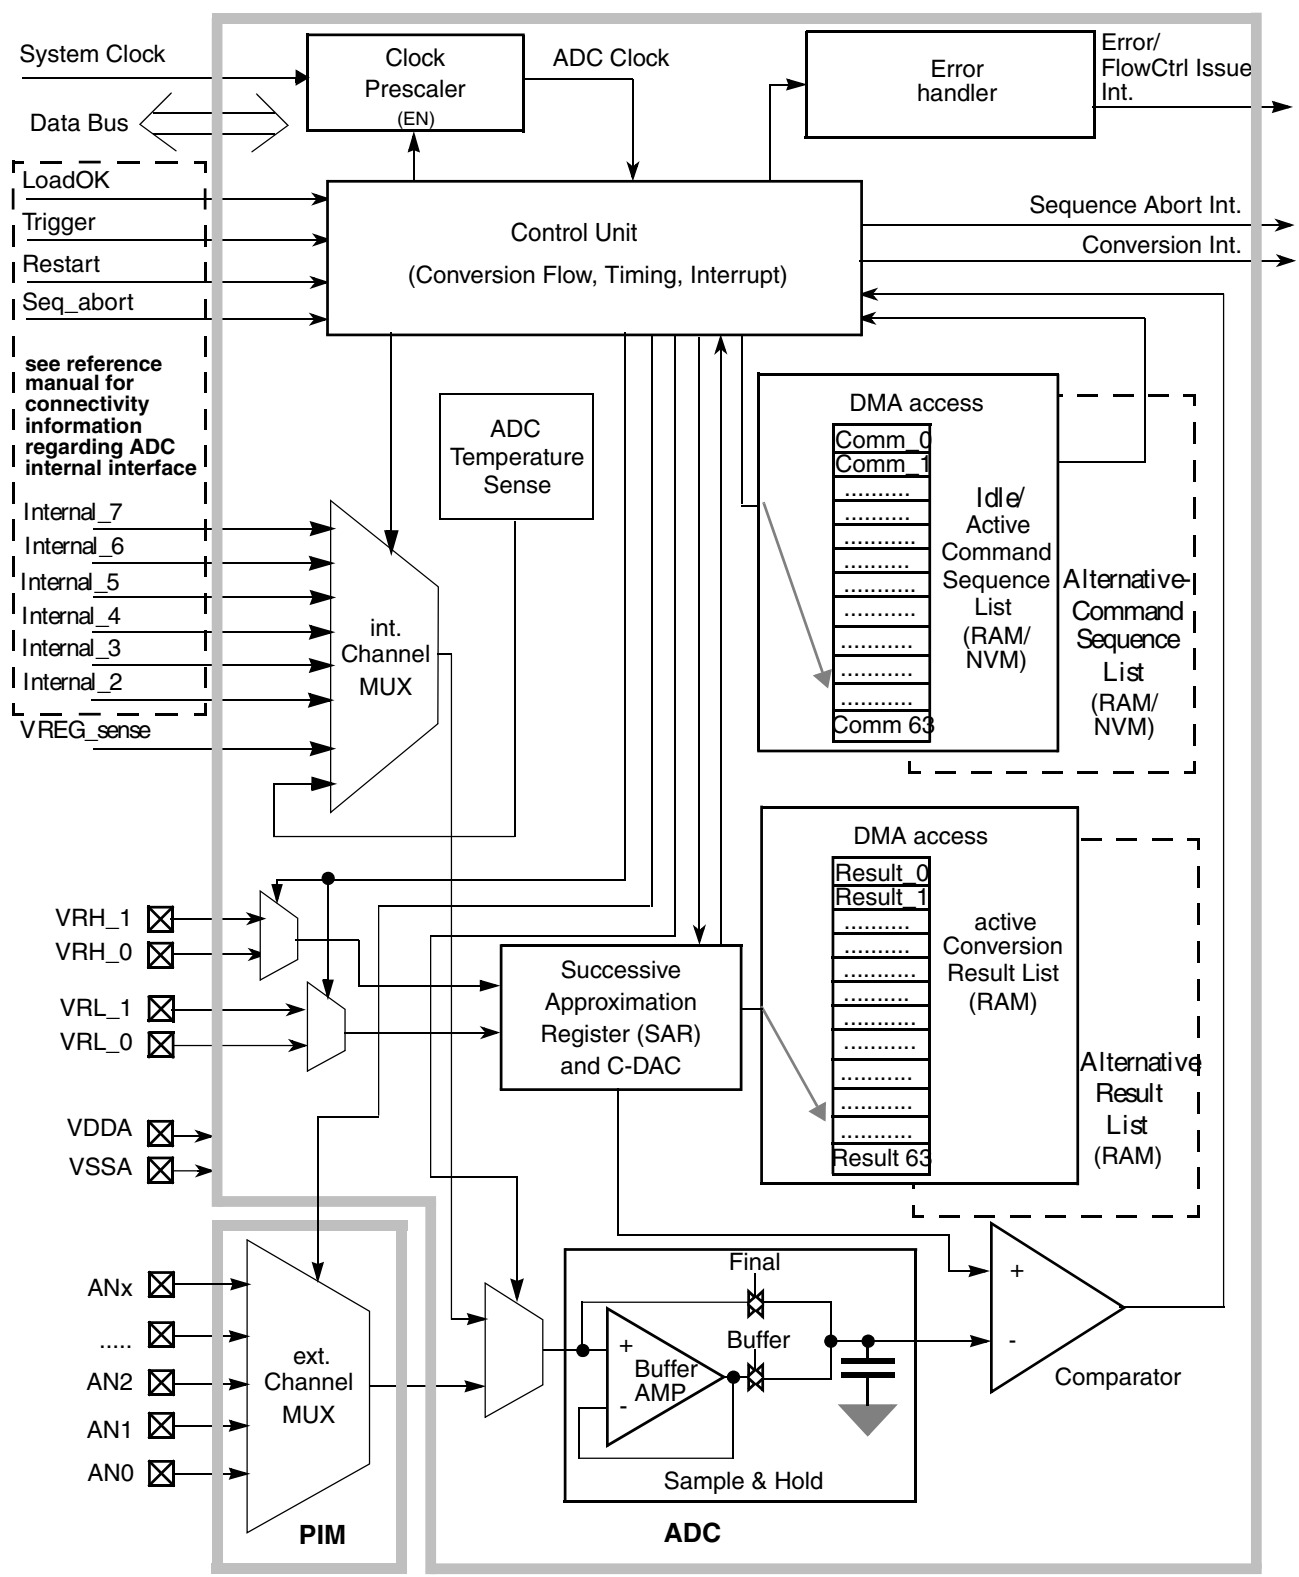

Figure 22-2. ADC block diagram
- Via internal interface signals (Trigger, Restart, LoadOK, and Seq_Abort; see also Figure 22-2). Each interface signal is associated with one conversion flow control bit.
The bits of register ADC_FLWCTL reflect the captured request and status of the internal interface signals (LoadOK, Trigger, Restart, and Seq_abort; see also Figure 22-2) if access configuration is set accordingly and indicate event progress (when an event is processed and when it is finished).